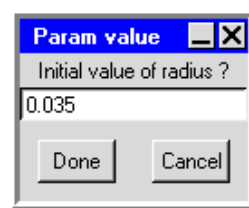

Figure 24.2.1: The **Param value** Panel
If the parameter you define is related to the geometry of an object or the properties of a material, **Airpak** will ask you to enter a value for the parameter when you click **Update** or **Done** in the **Object** panel or the **Materials** panel. For example, if you specify a parameter for the radius of the fan (**\$radius**), **Airpak** will ask you to provide an initial value for the radius in the **Param value** panel (Figure 24.2.1).
- Specify the variable name that will be set to be equal to the object's name. In the **Active parameter** panel, select **Option is ON if variable is equal to this object's name**, and enter the **Variable name**. **Airpak** will ask you to provide an initial value for the variable in the **Param value** panel (Figure 24.2.1). The name of the object or some other name must be entered, enclosed within quotation marks.
the Expression and the Value. Also, provide an initial value for the variable in the Param value panel (Figure 24.2.1).